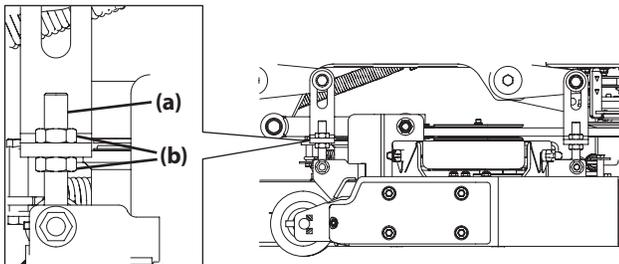

Figure 31
- Adjust the eyebolt (a) at the left front of the deck so that the blade-to-ground height at the right outside blade tip matches that of the left outside blade tip. This is done by loosening the jam nut (b) on the eyebolt (a) and tightening the upper jam nut (b) to raise the deck and loosening the jam nut (b) to lower the deck. The right outer blade tip height is fixed by the right, front eyebolt (a) so you must adjust the left outer tip to match it (Figure 31).
- Loosen the jam nuts (b) at the rear left and right of the deck eyebolts (a) (Figure 31).